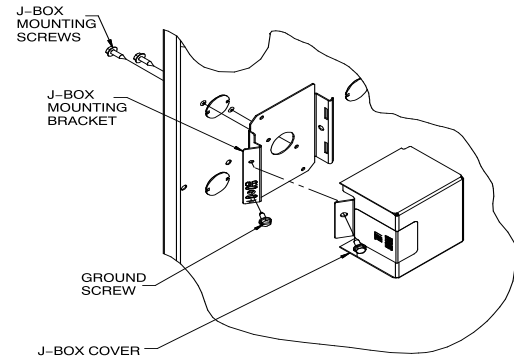

Fig. 35 – Installing J-Box (When Used)
The J-Box cover, mounting bracket and screws are shipped in the loose parts bag included with the furnace. See Fig. 35 for J-Box mounting locations.
1. Install J-Box mounting bracket to inside of furnace casing. See Fig. 35.
5. Connect field ground wire and factory ground wire to green ground screw on J-Box mounting bracket as shown in Fig. 35.
7. Attach furnace J-Box cover to mounting bracket with screws supplied in loose parts bag. Do not pinch wires between cover and bracket. See Fig. 35.
4. Connect field ground wire and factory ground wire to green ground screw on J-Box mounting bracket as shown in Fig. 35.